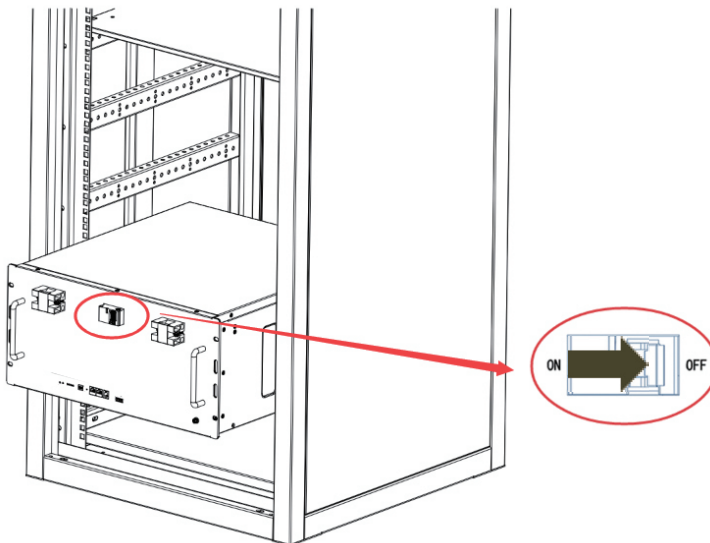

Figure 6-1 Make Sure the Battery is in Off Status
- 1 Make sure the battery is in off status. As shown in Figure 6-1.